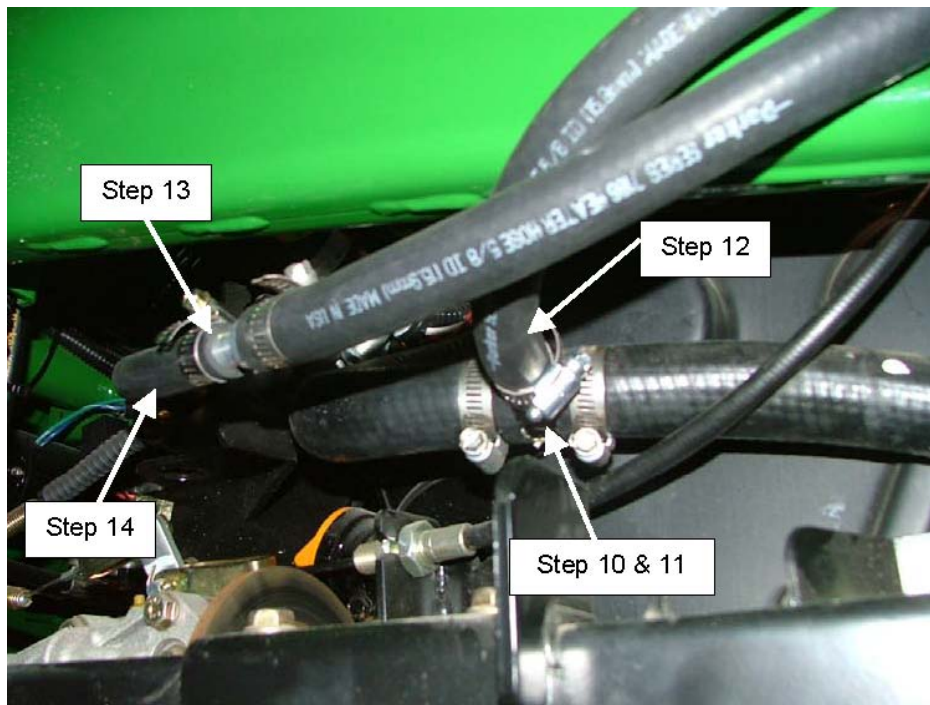

Figure 2
6. Connect (2) heater hoses, 5/8" X 7" long to each nipple of the heater unit and secure with small hose clamps.
8. Connect (1) heater hose 18" long to the outer nipple of the H-valve to the engine area. Secure with small hose clamps.
9. Connect (1) heater hose 36" long to the inside nipple of the H-valve to the engine area. Secure with small hose clamps.
11. Install the hose tee and secure using (2) large hose clamps.
12. Connect the 36" long heater hose that routes from the inside nipple of the H-valve to the 5/8" nipple of the hose tee and secure with (1) small hose clamp.
14. Route the ½" x 48" long heater hose around the rear to the driver side of the engine area, to the fuel filter area. See Figures 2 and 3.